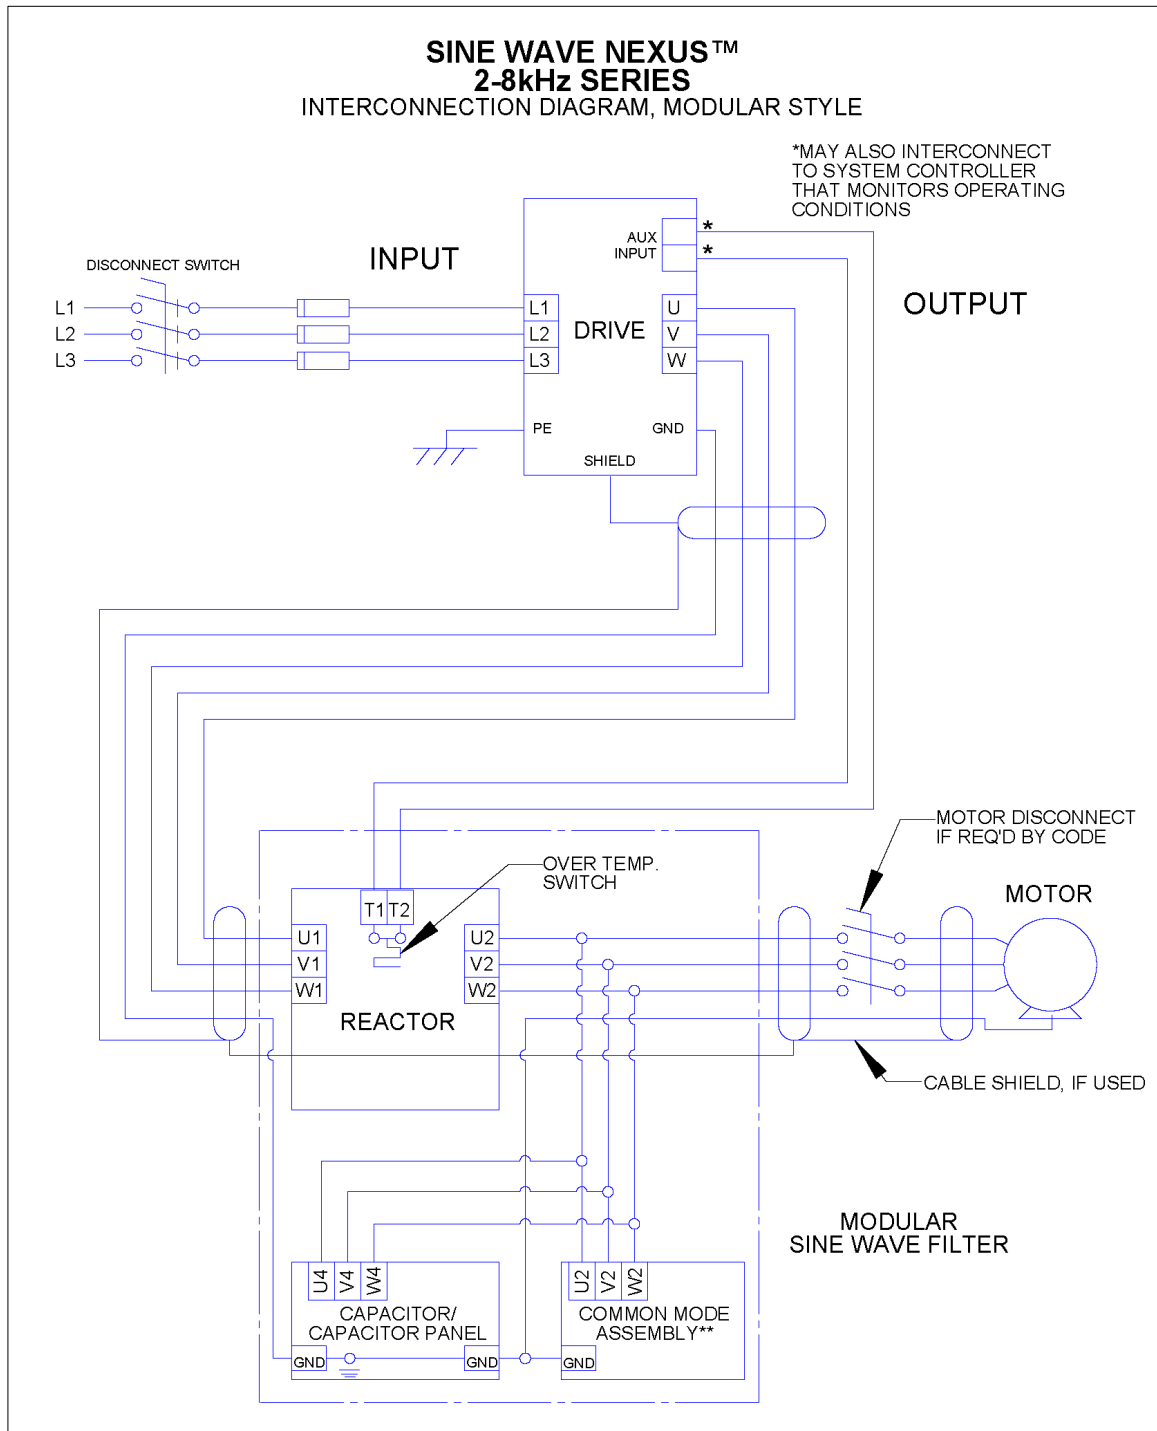

Figure 5-1: Modular Interconnection
- For modular filter applications, interconnection between the filter, its power source, the capacitor(s), the common mode assembly and the drive is shown in Figure 5-1: Modular Interconnection (p24).